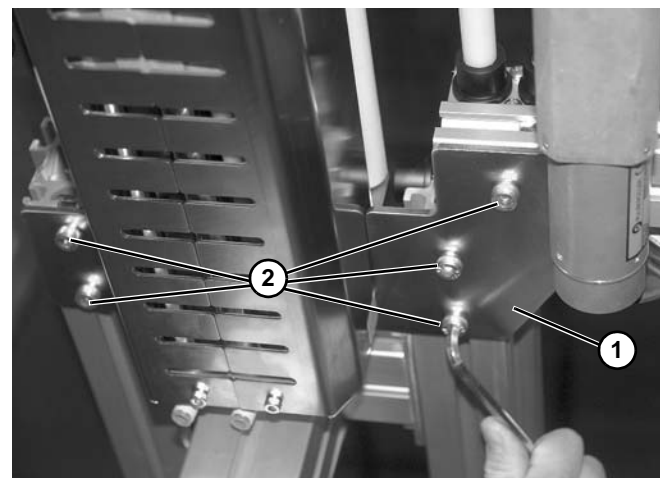

Figure 85
2. Install tie bracket (**Figure 85, item 1**) with five screws (**Figure 85, item 2**).